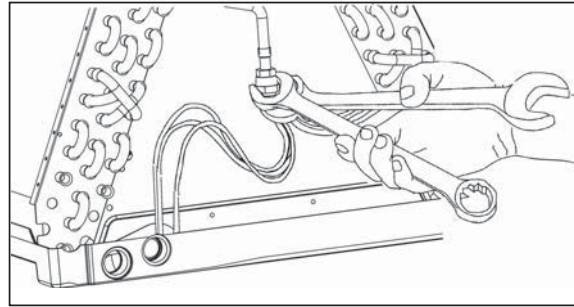

Figure 9. Wrenches on Distributor Body and Assembly Nut
2. Loosen the orifice body halves by applying two wrenches and squeezing them together as shown in **Figure 9**, to turn the assembly nut counter-clockwise.